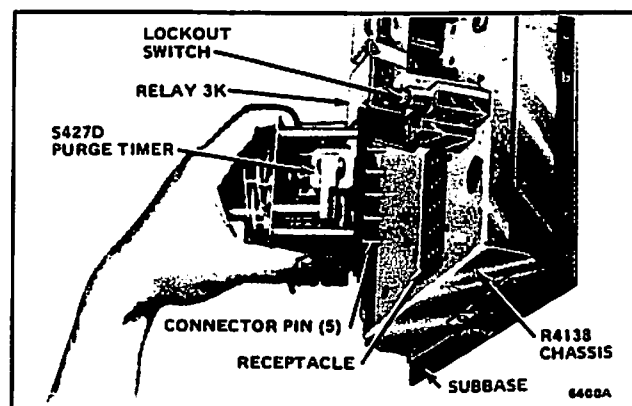

FIG. 15—ALIGNING PURGE TIMER WITH RECEPTACLE.
INSTALLING AN S427D PURGE TIMER (FIGS. 15, 16, AND 17)
3. Align the 5 connector pins on the purge timer with the receptacle just below the 3K relay on the R4138 (Fig. 15).